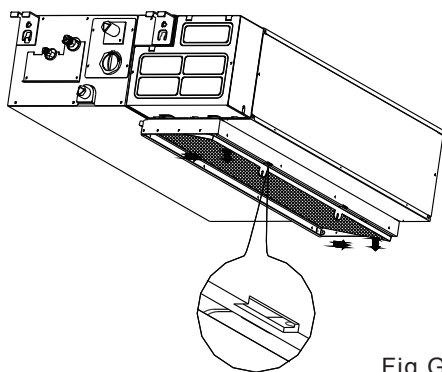

Fig.G2
2. For downward ventilated units, please push the filter up slightly to let the position retainer escape away from the flange fixed holes, and take off the filter according to the arrow direction shows in Fig. G2.